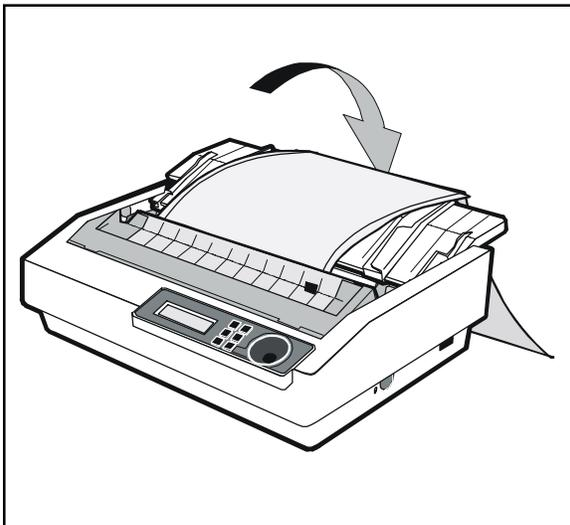

Figure 3-9. Directing Pin-Feed Paper to the Rear
9. Install the paper support in the lowered position, as shown in figure 3-9.
Note: Always direct pin-fed media to the rear of the printer, as shown in figure 3-9.